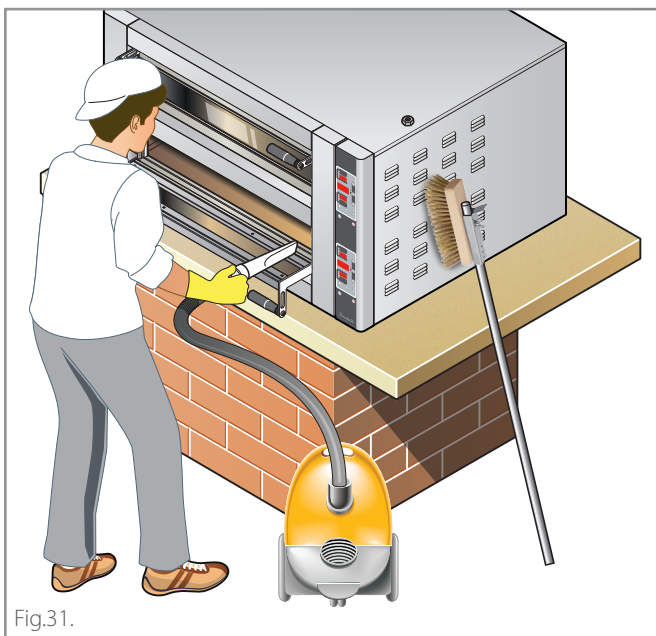

Fig.31.
- (A) Set the **chamber temperature to 400°C - 752°F**;
- (B) acting on the "MIN" e "MAX" keys, set both the **top** and **bottom power to MAX**;
- (C) switch the cooking chamber lights off;
- (D) when the temperature is reached, switch the oven off with the **ON/OFF** key and let it cool down with the door closed;
- (E) in a cold oven, clean the chamber from the crystallized food residues using a natural fibre brush and then vacuum with an ash extraction bin ► Fig.31.
- (B) set the **top** and **bottom power to 100%** see manual settings;
- (C) switch the lights in the cooking chamber off;
- (D) when the temperature is reached, switch the oven off with the ON/OFF key and let it cool down with the door closed;
- (E) with a cold oven, clean the chamber from the crystallized food residues using a natural fibre brush and then vacuum with an ash extraction bin ► Fig.31.